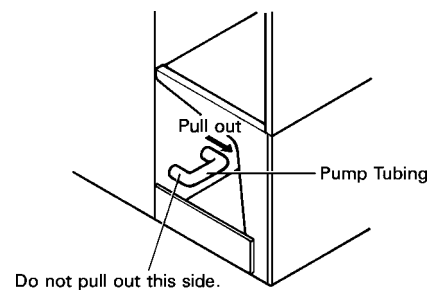

Fig. 4
- 3) Drain the Water Tank by removing the base cover and one end of the pump tubing. See Fig. 4.
6) Drain the Water Tank by removing one end of the Pump Tubing. See Fig. 4.
- 28) Drain the Water Tank by removing one end of the Pump Tubing. See Fig. 4.